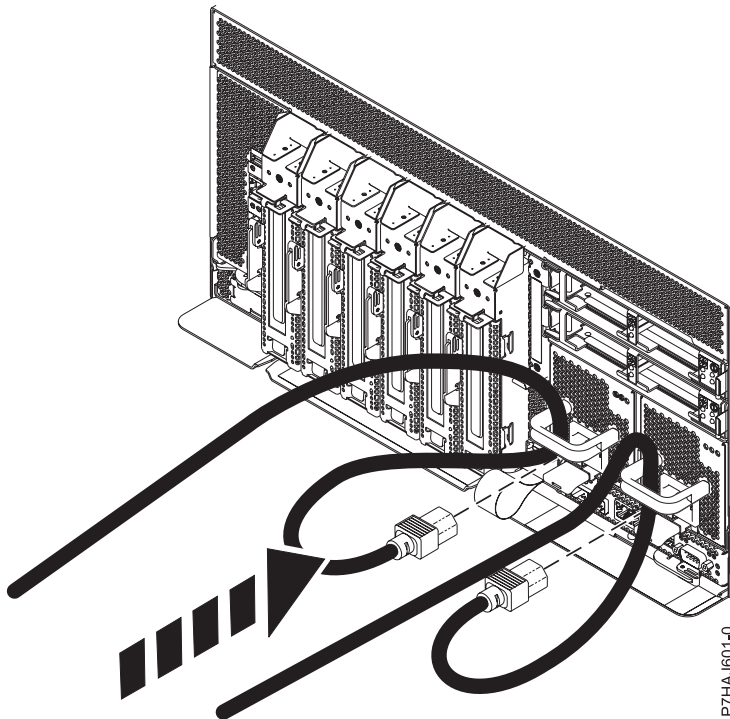

Figure 27. Connecting the power cords
2. Reconnect the power cord to the system unit as shown in Figure 27 on page 38. Ensure that the cords are threaded through the handles.